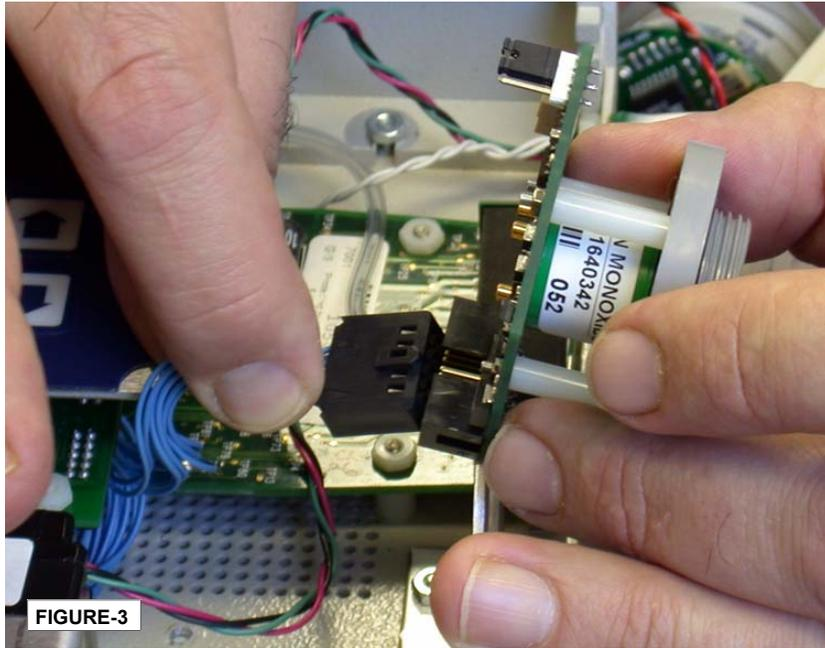

FIGURE-3
- 3) Grasp the sensor module by the edges of the circuit board to avoid interfering with the circuit and potential damage and plug the sensor cable into it. These cables are keyed and insert only one way. Refer to figure-3 photo.